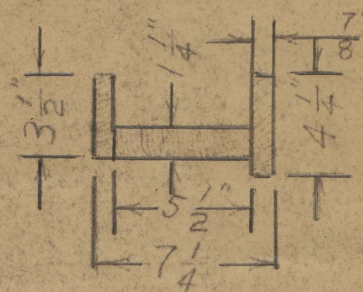

Fig. 2
3. Saw the other kerfs perpendicular to the bottom and at 45° angle with the sides (fig. 2).
6. Bore two small screw holes in the side which extends below the bottom in the position as shown in fig. 2. Also bore a hole of the same diameter in the bottom at the position shown in fig. 2. These holes are for fastening the miter to a bench or table.